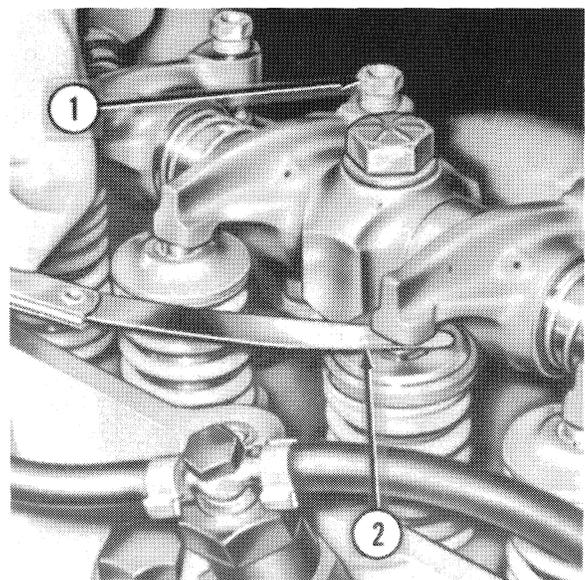

Figure 18
6. Rotate the engine and set the preliminary valve lash, Figure 18, to the specified limits, page 74.